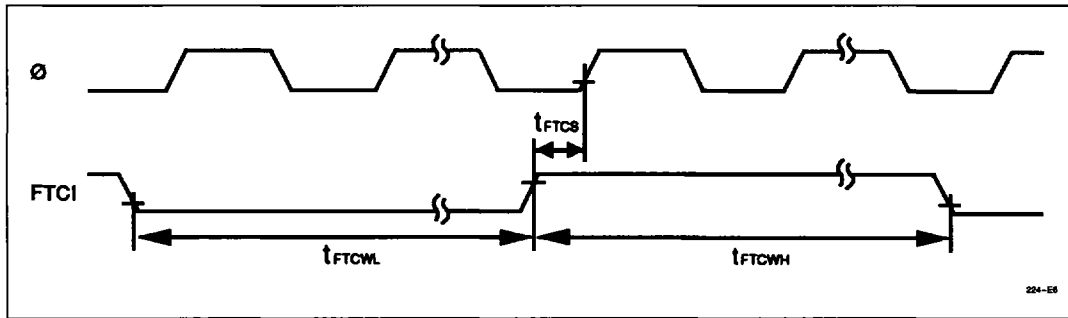

Figure 14-12. 8-Bit Timer Output Timing
14.3.4 8-Bit Timer Timing	Figures 14-12 to 14-14